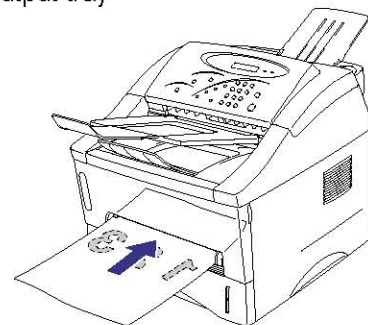

Fig. 2-25
- (1) Select the required manual duplex printing mode and manual feed mode from the driver.
- (2) Using both hands, insert the paper into the manual feed slot with the side to be printed first facing upwards. Follow the instructions on the computer screen.
- (3) Repeat action (2) until you have printed all the even numbered pages.
- (4) Remove the printed even numbered pages from the output tray
- (5) Re-insert them in order into the manual feed slot, loading the paper with the side to be printed (blank side) face up, and the top edge towards the printer. Follow the instructions on the computer screen. (Fig. 2-25)
- (6) Repeat action (5) until you have printed all the odd pages on the reverse side of the paper.